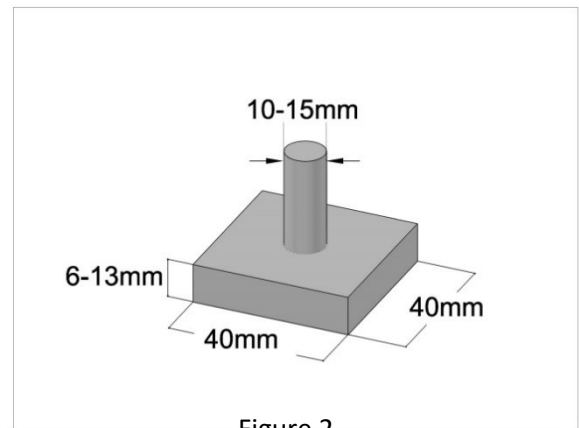

Figure 2
- a. The load will be applied from above with the loading plate (**Figure 2**) centered over one of the three loading locations.
- b. The load will be applied from above by means of a 40-mm square by 6-13-mm thick plate. A 10-15-mm diameter loading rod will be attached to the center of the plate (**Figure 2**). The plate will be horizontal, have a flat bottom and will not pivot on the loading rod.